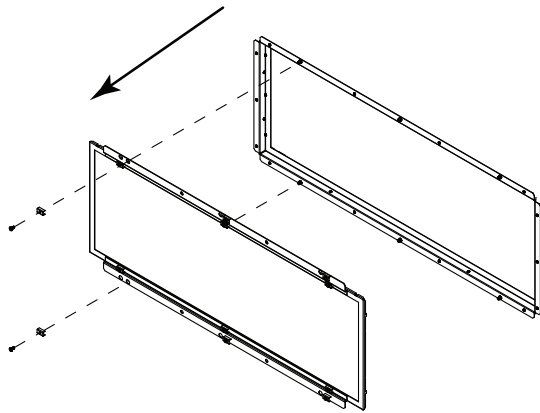

Figure 3
7. Remove the inner glass assembly from the inner glass assembly frame. See Figure 3.